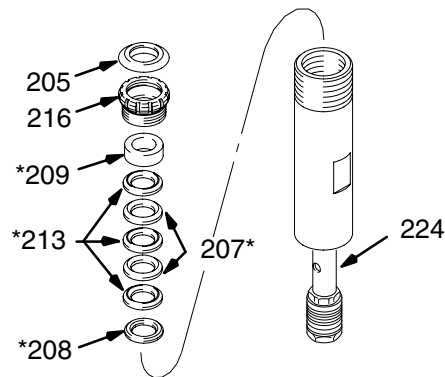

Fig. 26 02397
2. Remove the plug (205). Unscrew the packing nut (216). See Fig. 26.
3. Tap the piston rod (224) down and pull it out the bottom of the cylinder (219). See Fig. 26.
4. Remove the throat packings. See Fig. 26.